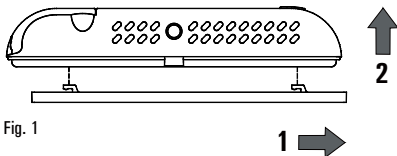

Fig. 1
- 1 Release the wall mount plate fitted under the base of the thermostat as shown in Fig. 1.